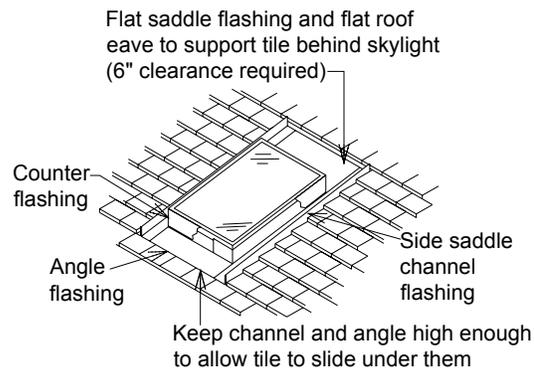
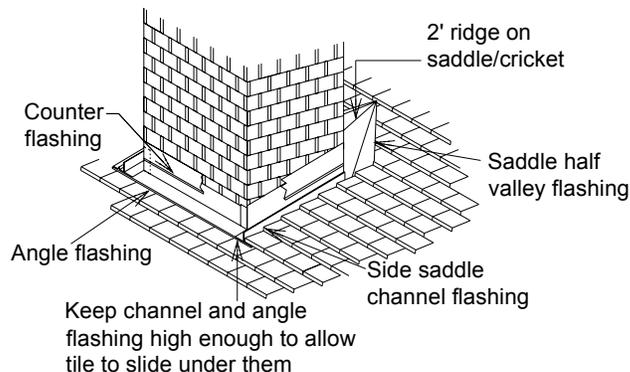

FIGURE 10 . SKYLIGHT FLASHINGS
FIGURE 11. CHIMNEY FLASHINGS
6. Protrusions no more than 30" wide can utilize a flat saddle flashing. (Figure 10) Protrusions over 30" wide require a framed saddle/cricket and must be lined with 16 oz. copper extending up sloped roofs not less than 12" and up vertical walls not less than 5". (Figure 11) Counter flash as necessary.